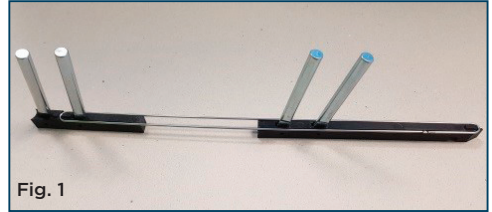

Fig. 1
A) Assemble finger Slider components as shown in **Fig. 1**.